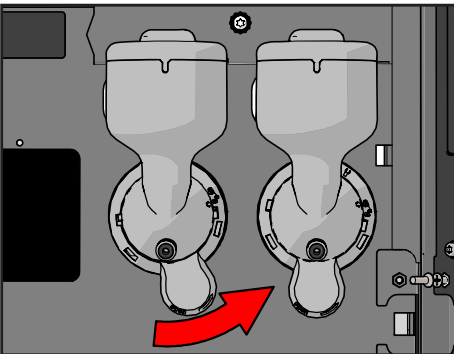

Figure 43.
9. Turn the washer anticlockwise to the open position (see Figure 43).